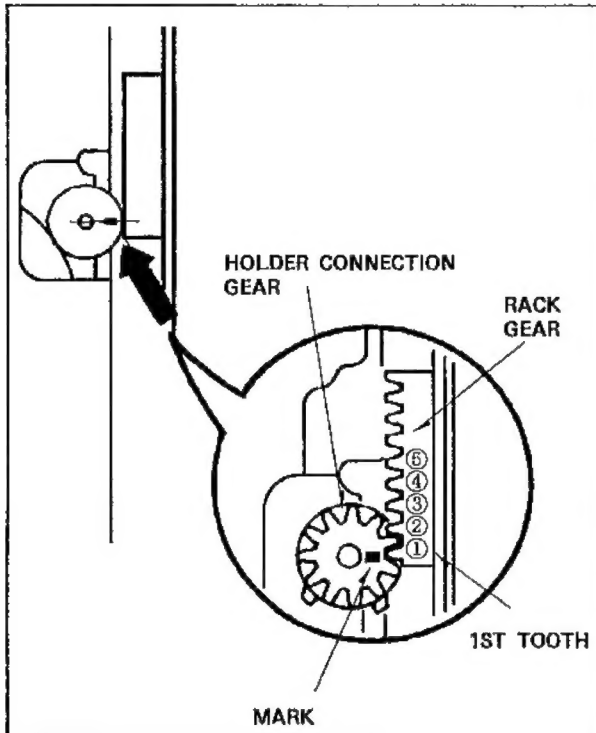

Fig.M49
4. Install the cassette compartment (without cassette holder) to the mechanical chassis so that mark on the Holder Connection Gear should line up with first tooth of the Rack Gear as shown in Fig.M49.